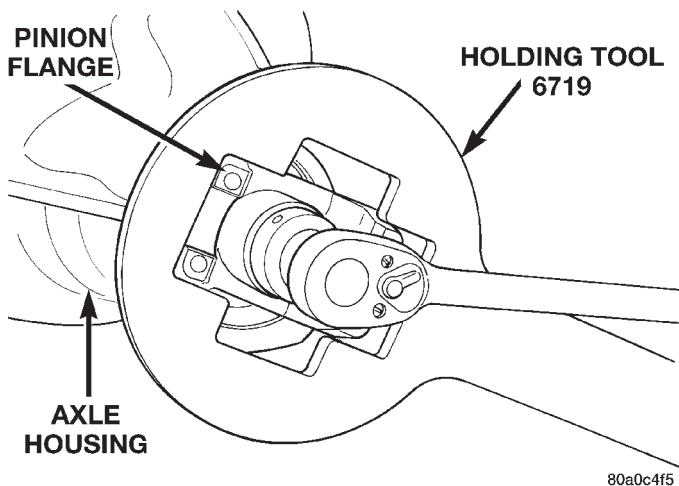

Fig. 37 Tightening Pinion Nut
(9) Use Flange Wrench 6719 to retain the yoke (Fig. 37). Slowly tighten the nut in small increments until the rotating torque is achieved. Measure the preload torque frequently to avoid over-tightening the nut.